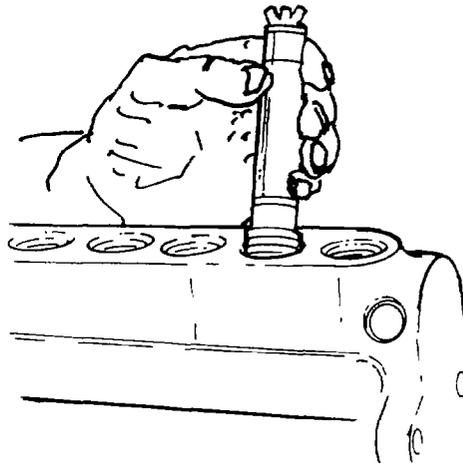

Fig. 99 — Removing Delivery Valve Body
- u. Remove the plunger spring (item 25), upper spring seats (item 26) and control sleeve assemblies (items 27 to 29).
w. Remove the delivery valve securing nuts (item 67), sealing gaskets (item 66), holders (item 65) and springs (item 64).
- x. Use a magnetic pencil or wooden dowel to remove the delivery valve stems (part of item 63), and using puller TSE 76242, remove the delivery valve body as shown in fig. 99.